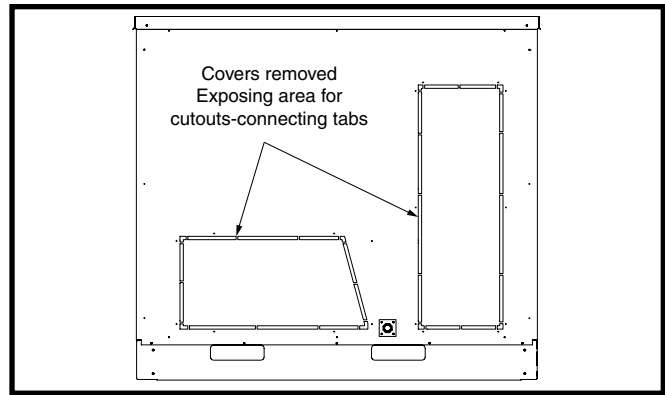

Figure 4. Vertical to Horizontal Conversion (Right-Side View)
1. Remove both return and supply horizontal duct covers. Do not discard the covers. These will be used to cover the openings in the bottom of the unit. See Figure 4.